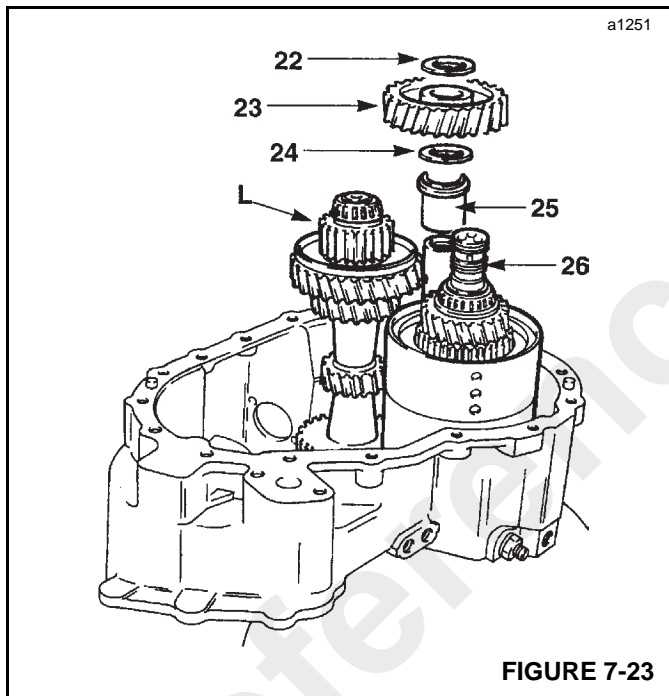

FIGURE 7-23
20. Lift off 3rd/4th synchro-hub (20). Note the positions for reinstalling the mating cups.
21. Lift out layshaft assembly (21).
- 22. Remove idler gear upper thrust washer (22, Figure 7-23).
- 23. Tilt mainshaft L to one side and lift off idler gear (23).
- 24. Remove idler gear lower thrust washer (24).
- 25. Lift off idler gear spacer (25).
- 26. Tilt mainshaft L to one side and lift out reverser unit (26), taking care not to damage the piston ring seals.